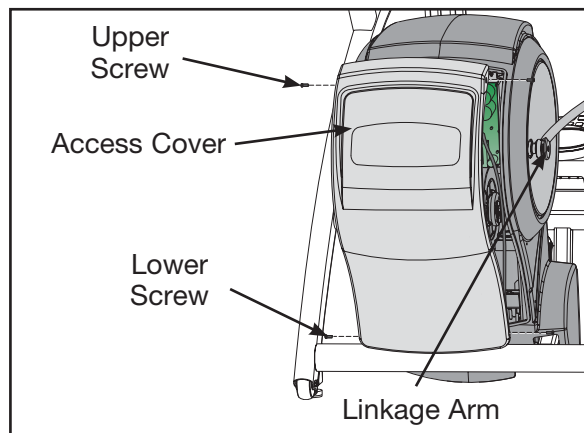

Figure 2
- A. Using a Phillips screwdriver, remove the two lower screws (one screw on each side), securing the access cover. See Figure 2.
- A.** While being sure not to pinch any cables, hold the access cover in place. See Figure 2.